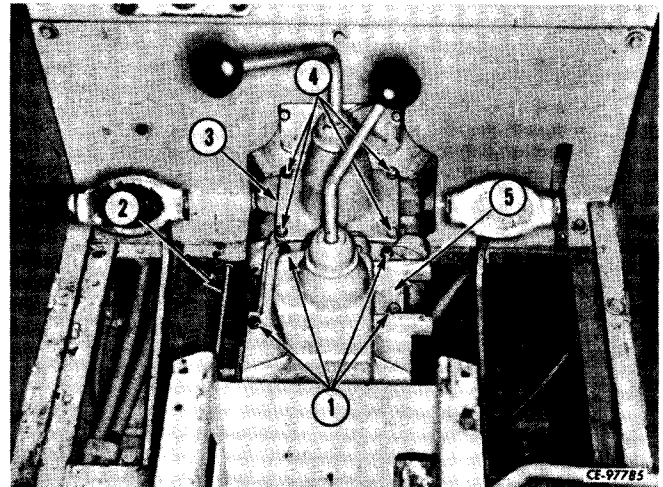

Figure 4-2
Remove cap screws and lock washers (1, 4, Fig. 4-2). Lift off transmission control lever housings (3, 5). Disconnect clutch pedal control rod (2) from clutch lever arm by removing the clevis pin.
Position new gaskets and transmission control levers (3, 5, Fig. 4-2) on the transmission housing. Install and tighten cap screws and lock washers (1, 4). Connect clutch pedal control rod (2) to clutch lever arm by installing clevis and cotter pins.